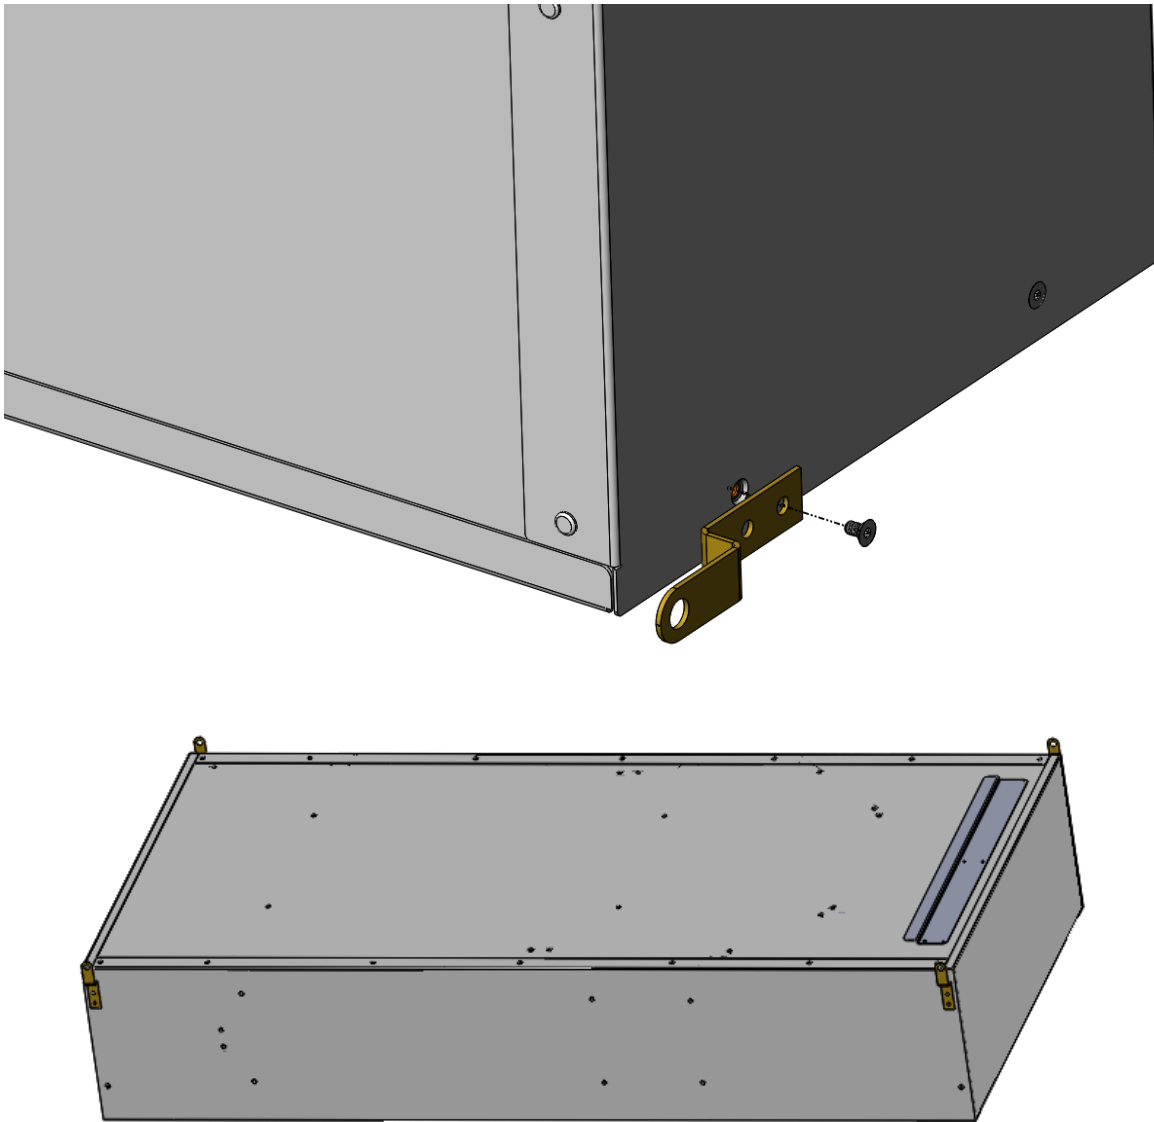

Figure 10: Secure Z-Brackets to the PK-220
1. Install the four included Z-brackets onto the PK-220 by removing the back most screws of the inlet and outlet mufflers and using them to secure the Z-brackets. Orient the Z-brackets as shown in Figure 10. The Z-brackets are for use with 12-gauge hanger wire.